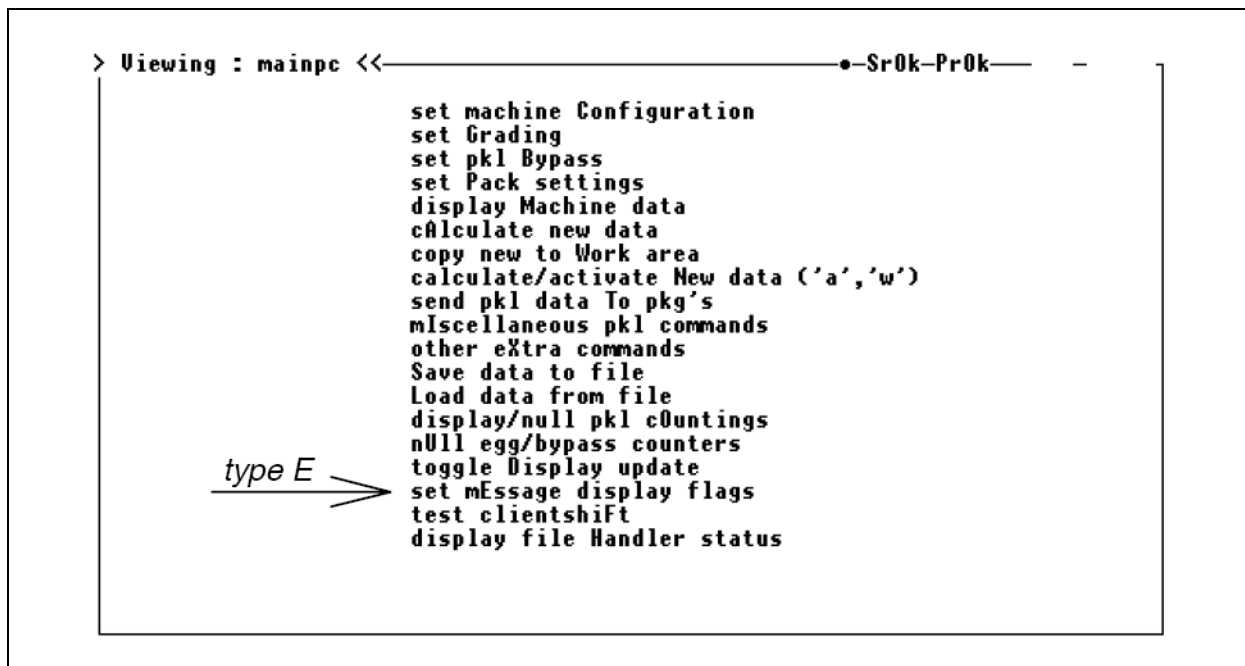

Fig. 145 - PTB test procedure screen 1
7. Type E" (set mMessage display flags), see screen 1 (fig. 145), NOT FOLLOWED BY ENTER! Screen 2 (fig. 146) will now be displayed.)